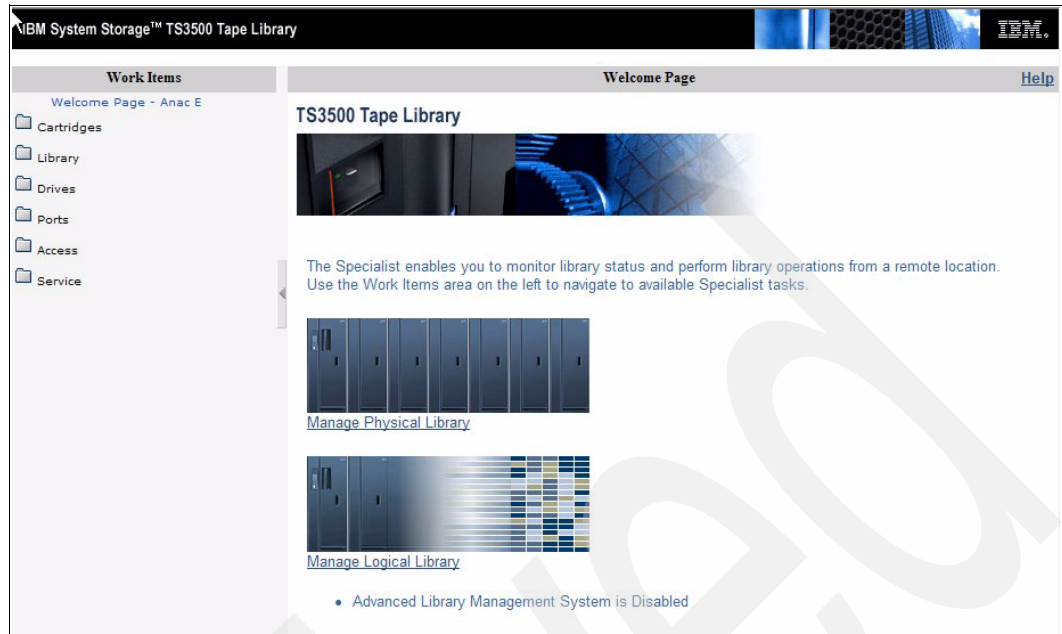
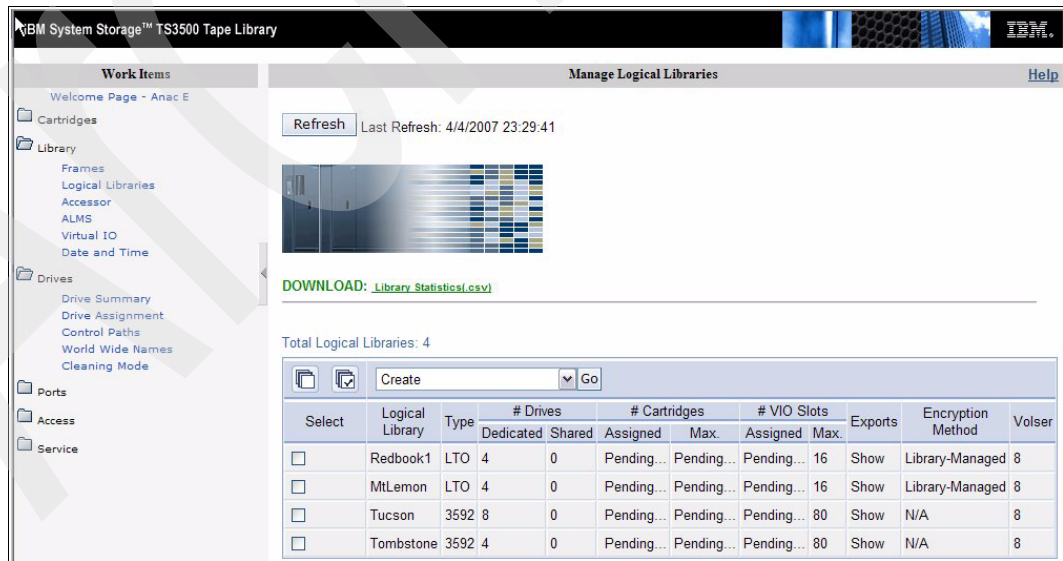

Figure 2-47 Welcome panel before enabling ALMS
Figure 2-49 Create Logical Library
1. Enter the library's IP address as a Web site in your browser. If login security has been enabled, there is a login prompt, and then you see the welcome panel with the message that ALMS is disabled at the bottom; see Figure 2-47.
When switching from an environment with ALMS disabled, to one with ALMS enabled, the library uses the previous definitions as a basic starting configuration. The library performs an inventory operation similar to when the frame door has been opened. The library status during this inventory process shows a cartridge assignment status of pending (Figure 2-49).
1. From the Tape Library Specialist (Figure 2-47 on page 67), select **Library** → **Logical Library** and on the next panel, Figure 2-49, click **Create**.